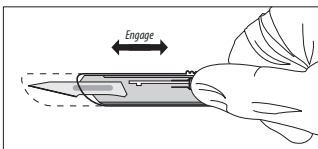

Figure 15
- Engage safety and/or locking feature of scalpel (where provided) once cutaneous puncture site is enlarged, to reduce risk of cutting the guidewire (refer to Figure 15).